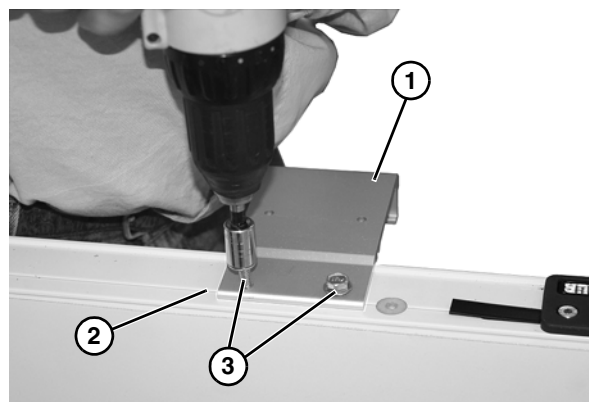

Figure 18
1. Locate and hold bracket (**Figure 18, item 1**) to side rail. Hole should line up with notch (**Figure 18, item 2**) in side rail.
2. With a cordless drill or equivalent install self-drilling screws (**Figure 18, item 3**). Use high speed setting to drill through side wall. Once the tap portion is started switch drill power to a lower speed. Do not fully tighten with drill.